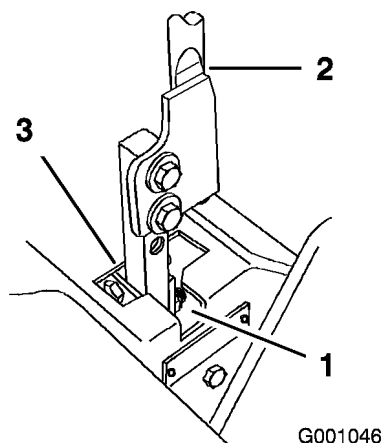

Figure 68
5. Move the lever to the neutral position but **not locked** (Figure 68).
6. Pull the lever back until the clevis pin (on arm below pivot shaft) contacts the end of the slot (just beginning to put pressure on the spring) (Figure 68).
7. Check where the control lever is relative to notch in console (Figure 68). It should be centered allowing lever to pivot outward to the neutral lock position.